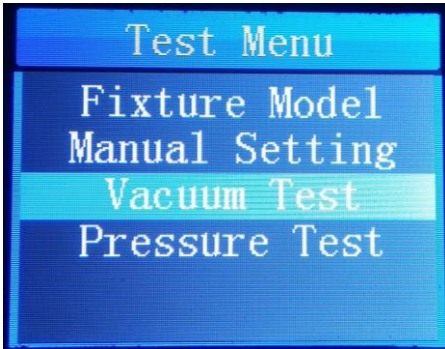
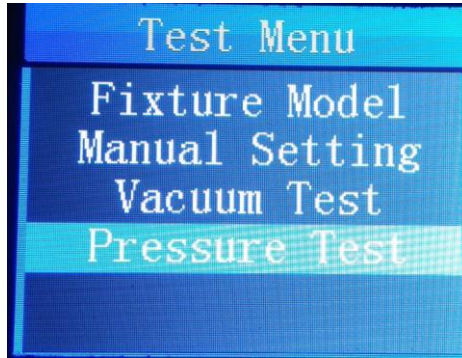

Figure 4
Figure 5
3. Enter the **Test Menu** and use the UP/DOWN button to select **Vacuum Test** (Figure 4) or **Pressure Test** (Figure 5) as needed, confirm your selection with ENTER.